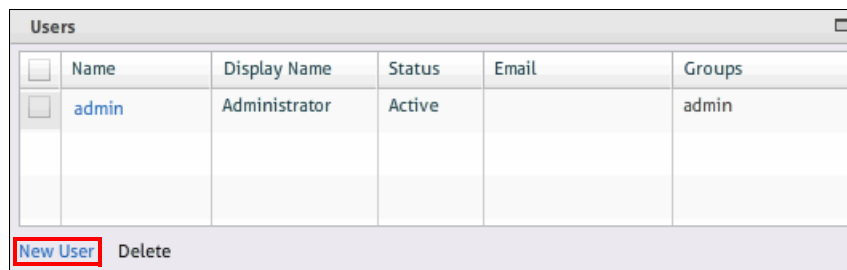

Figure 5-4 Creating a new user
- To create a user, click **New User**, as shown in Figure 5-4.